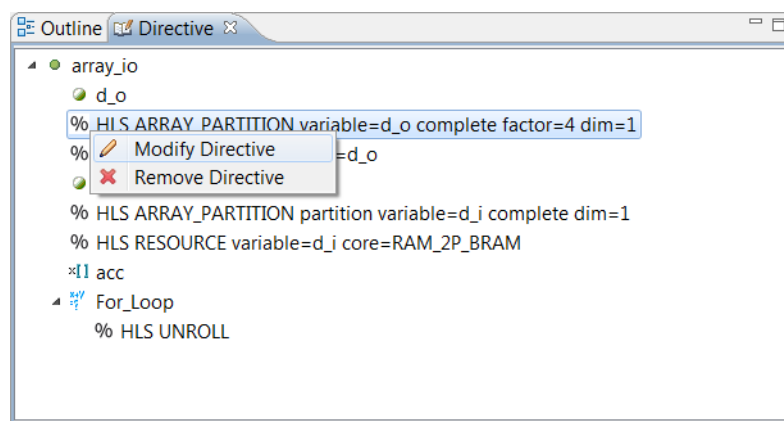

Figure 4-25: Modifying the Directive for `d_o`
4. In the Directive tab, select the existing partition directive for `d_o` as shown in Figure 4-25.